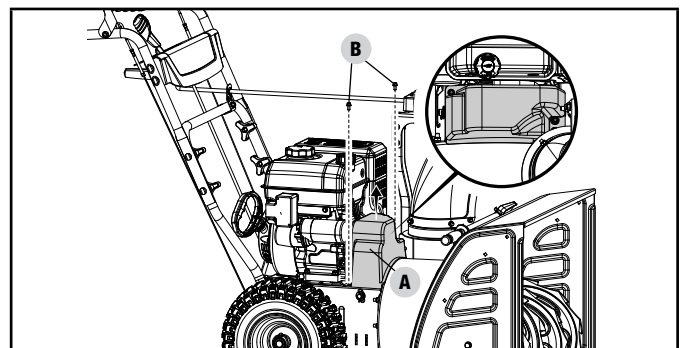

Figure 27
1. Remove the plastic belt cover (A) on the front of the engine by removing two M6 × 16 bolts (B) (Fig. 27).